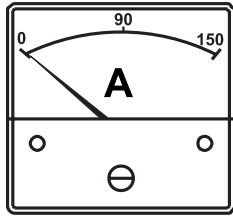

Figure 51. Ammeter (No Load)
8. The **ammeter** (Figure 51) will indicate **zero amps** with no load applied. When a load is applied, the ammeter will indicate the amount of current that the load is drawing from the generator.